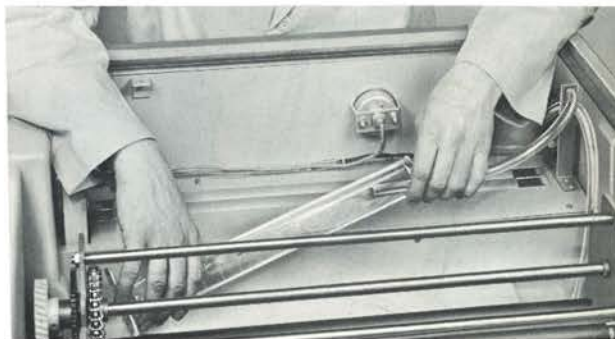

FIGURE 44 CHECKING REPLENISHMENT RATES (AGAINST WALL INSTALLATION)
c. Hold the check tubing in a small graduate as shown in figure 44 and proceed as outlined in steps 3-104c through f.